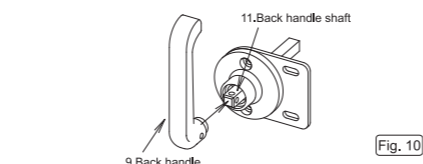

Fig. 10
- Install the back handle (gunmetal) on the back handle shaft (Fig.10).